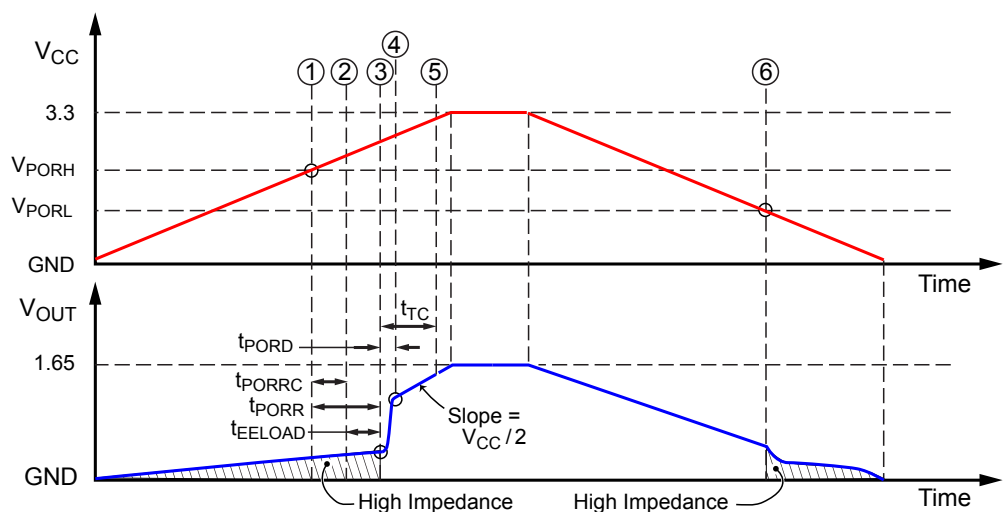
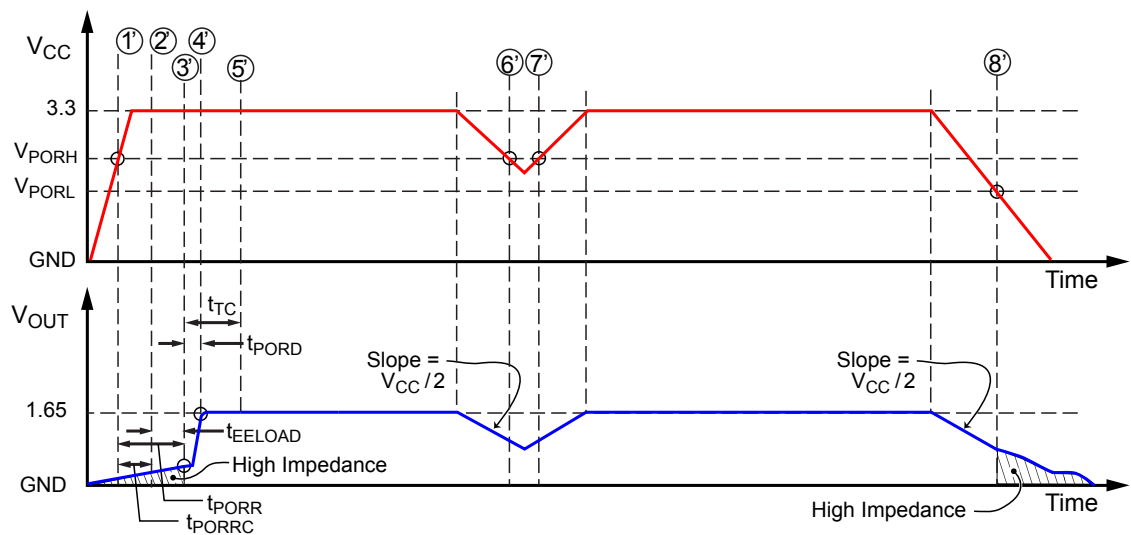

Figure 1: POR Operation: Slow Rise Time Case
Figure 2: POR Operation: Fast Rise Time Case
- **Power-Up.** At power-up, as V_{CC} ramps up, the output is in a high-impedance state. When V_{CC} crosses V_{PORH} (location [1] in Figure 1 and [1'] in Figure 2), the POR Release counter starts counting for t_{PORRC} [2], [2']. At this point, the EEPROM content will be loaded in volatile memory after t_{EELoad} [3],[3'] and the output will go to $V_{CC}/2$ after t_{PORD} [4], [4']. The temperature compensation engine will then adjust the